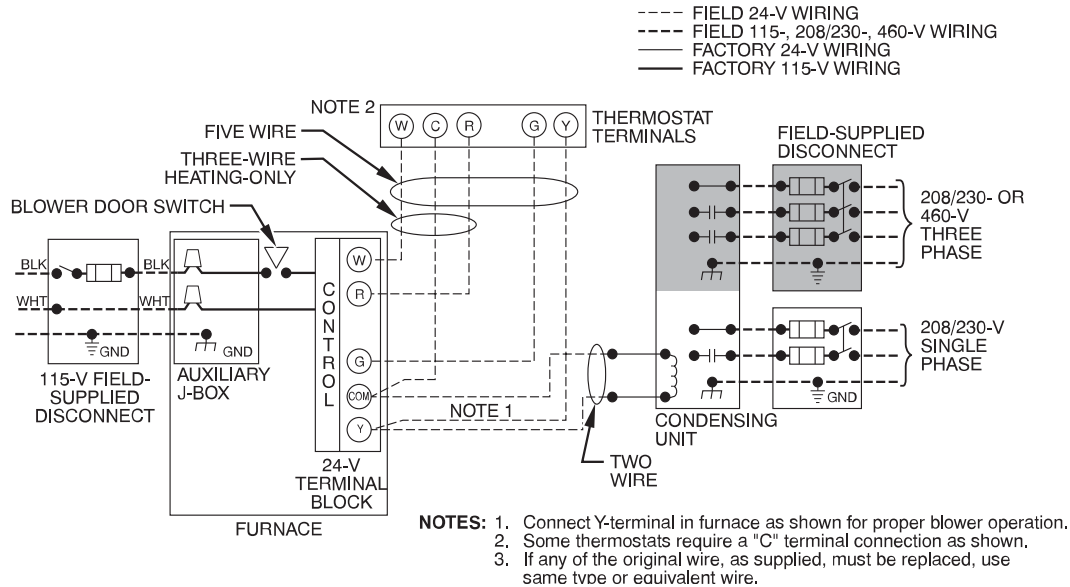
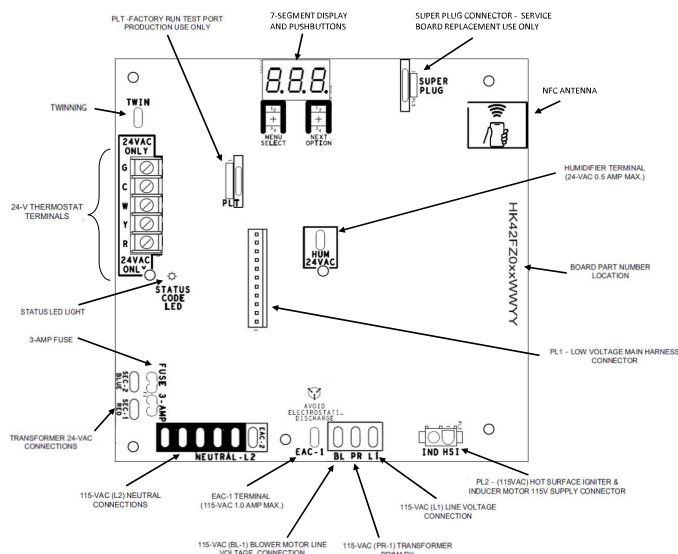

Fig. 34 – Typical Field Wiring Diagram
Fig. 38 – Example of Single Stage Furnace Control
See Fig. 34 for field wiring diagram showing typical field 115V wiring. Check all factory and field electrical connections for tightness.
6. Connect power cord power and neutral leads to furnace power leads as shown in Fig. 34.
5. Connect field power and neutral leads to furnace power leads. as shown in Fig. 34.
Make field 24V connections at the 24V terminal strip (Fig. 38). Connect terminal Y as shown in Fig. 34 for proper cooling operation. Use only AWG No. 18, color-coded, copper thermostat wire.
The 24V circuit contains an automotive-type, 3A fuse located on the control. Any direct shorts during installation, service, or maintenance could cause this fuse to blow. If fuse replacement is required, use ONLY a 3A fuse of identical size (Fig. 38).
ACCESSORIES (See Fig. 38)
Connect an accessory 24 VAC, 0.5 amp. maximum humidifier (if used) to the 1/4-in male quick-connect HUM terminal and COM-24V screw terminal on the control board thermostat strip. The HUM terminal is energized when the pressure switch closes during a call for heat (Fig. 38).